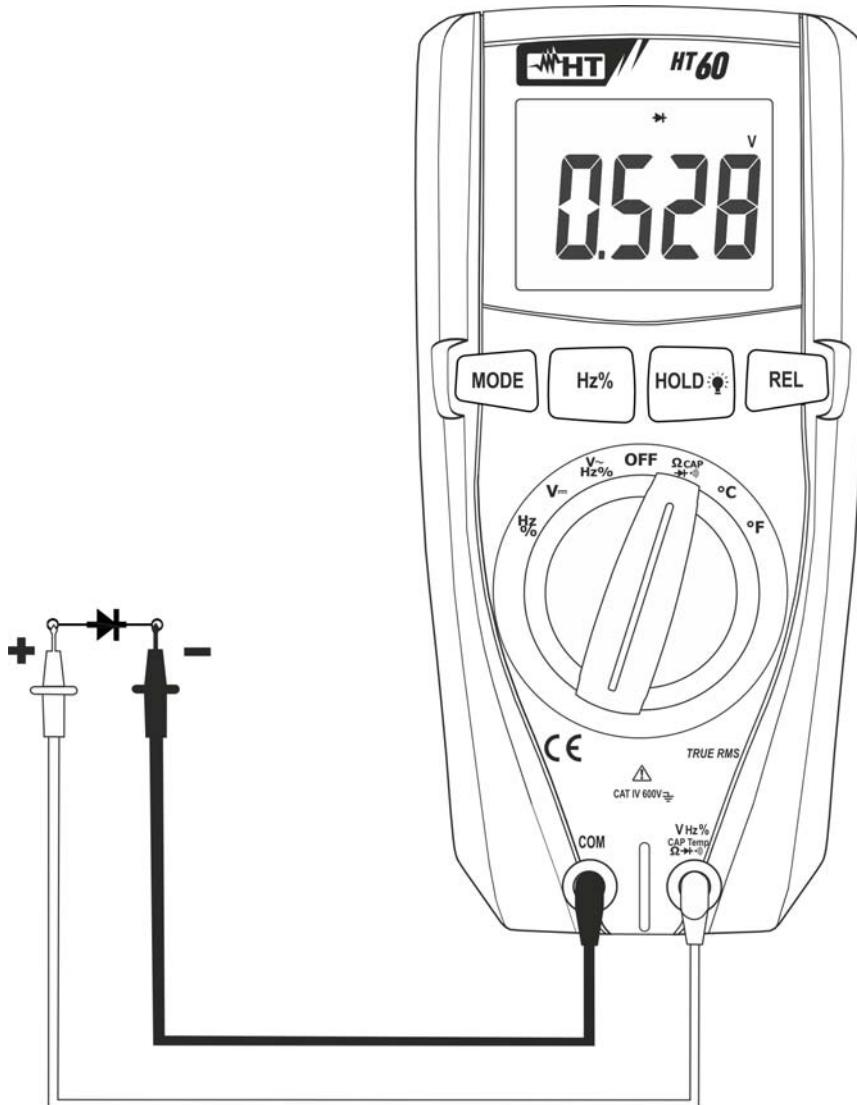

Fig. 5: Use of the instrument for diode test
4. Position the leads at the ends of the diode to be tested, respecting the indicated polarity (see Fig. 5). The value of directly polarized threshold voltage is shown on the display.
6. If the display shows the message “**O.L.**”, the terminals of the diode are reversed with respect to the indication given in Fig. 5 or the P-N junction of the diode is damaged.